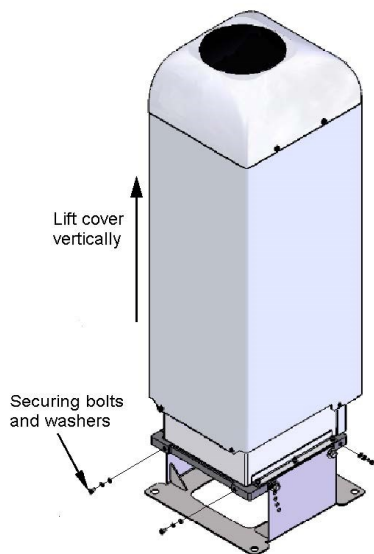

Figure 7-1. Removing the cover
1. Remove four screws (Figure 7-1 (p. 109)).